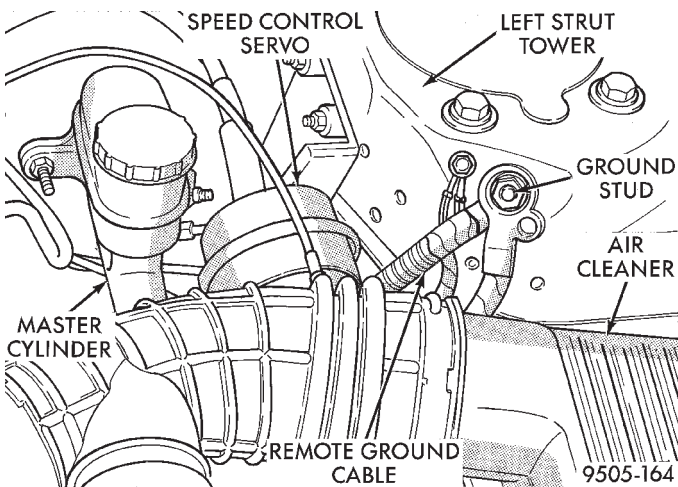
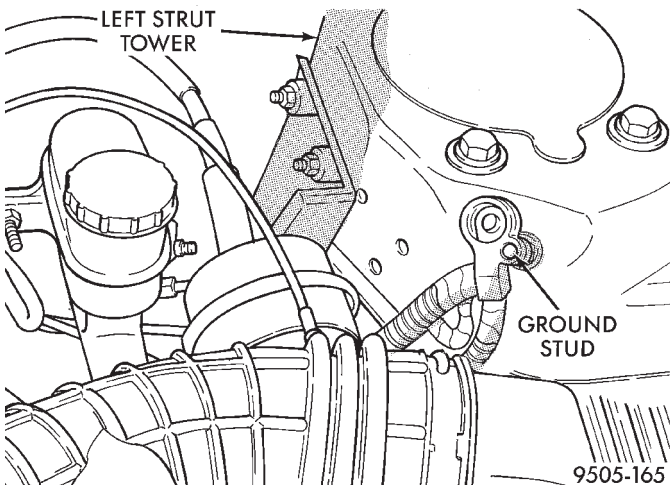

Fig. 4 Remote Ground Cable At Shock Tower
Fig. 5 Correctly Isolated Remote Ground Cable
- (1) Check power steering pump drive belt tension and adjust as necessary.
- (2) Disconnect power steering fluid pressure hose (Fig. 4), at power steering pump. Use a container for dripping fluid.
- (3) Connect the inlet hose on the Pressure Gauge, Special Tool 6815 using required adapter, Special Tool 6972 to the pressure fitting on the power steering pump. Connect the pressure hose which was removed from the power steering pump, using required adapter fitting, to the outlet port of Pressure Gauge, Special Tool 6815. **Pressure Gauge, Special Tool 6815 is to be installed in series with power steering pressure hose, between power steering pump and steering gear. It must also be installed so it is in correct direction of the fluid flow.**
- (4) Completely open valve on Special Tool 6815.
- (5) Start engine and let idle long enough to circulate power steering fluid through flow/pressure test and get air out of fluid. Then shut off engine.
- (6) Check power steering fluid level, and add fluid as necessary. Start engine again and let idle.
- (7) Pressure gauge should read below 862 kPa (125 psi). If above, inspect the hoses for restrictions and repair as necessary. The initial pressure reading should be in the range of 345-552 kPa (50-80 psi). The flow meter reading should be between 4.9 and 5.3 liters per minute (1.3 and 1.4 GPM).
(1) Remove remote ground cable (Fig. 4) from ground stud on shock tower. Then correctly isolate ground cable from vehicle by installing isolator on stud (Fig. 5).